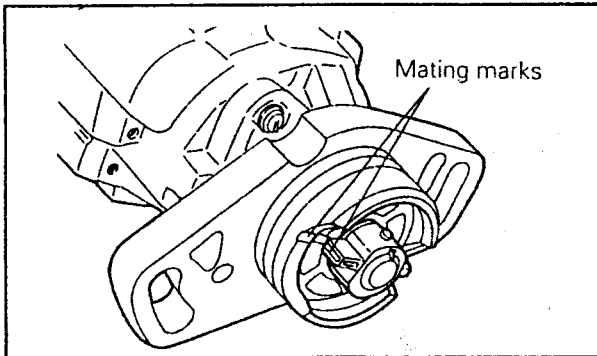

Fig. 5.3. — Turn the distributor shaft on the flange end until the two mating marks are aligned, before the distributor is fitted into the cylinder head.
- Set the engine at T.D.C. position. To do this, turn the crankshaft by applying a socket to the crankshaft pulley bolt, until the notch in the crankshaft pulley (Fig. 5.3) is opposite the "T" mark on the timing scale. To make sure that the correct position has been obtained, remove the rocker cover and check that both valves of No. 1 cylinder have some clearance. The cylinder head cover must be removed to carry out the check. Otherwise unscrew the No. 1 spark plug and insert a finger into the plug hole. The compression can be felt if the correct cylinder is at T.D.C. position.
- Refer to Fig. 5.3 and turn the distributor drive dog until the two marks are opposite each other.